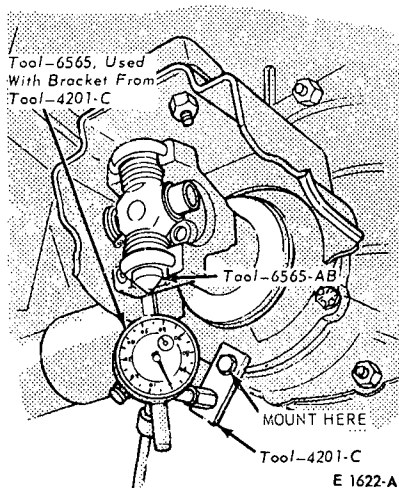

FIG. 12—Flange Bearing Cup Runout Check
cator adapter tool (Fig. 12). To fabricate the checking tool, modify a universal joint assembly by removing two bearing cups that are opposite each other, and cutting or grinding off one of the universal joint bearing flanges (Fig. 12).
6. Turn the companion flange so that the dial indicator cup-type adapter rests on the machined surface of the bearing cup (Fig. 12). Rotate the companion flange side-to-side slightly to obtain a reading indicating that the bearing cup surface is perpendicular to the indicator cup-type adapter. This will be the point at which the dial indicator cup is closest to the center of companion flange rotation. It is also the point at which the dial indicator hand will reverse direction as the companion flange is turning. Set the dial indicator to zero.